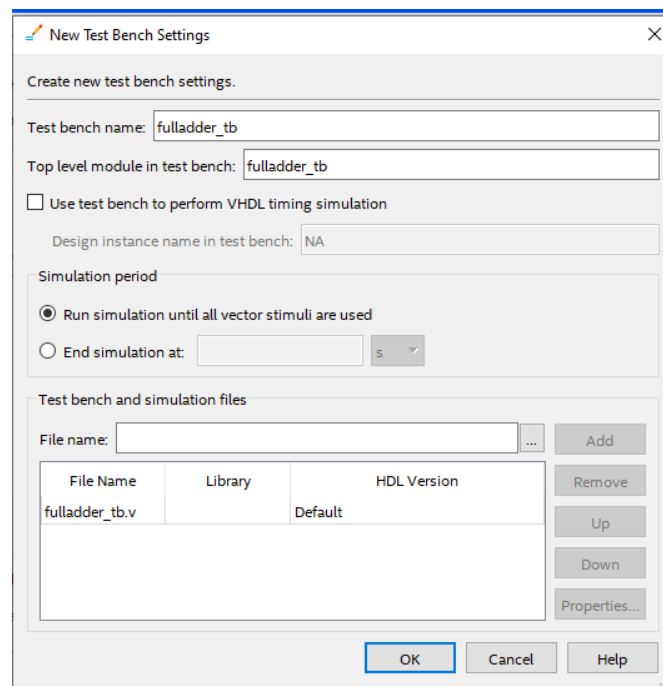

Fig. 1.14 Select Testbench file
- In **Assignments – Settings – EDA Tool Settings – Simulation- Nativelink Settings –** Select **Compile Testbench** and Click on **Testbench**. Select **fulladder_tb.v** as the testbench as shown in Fig. 1.14